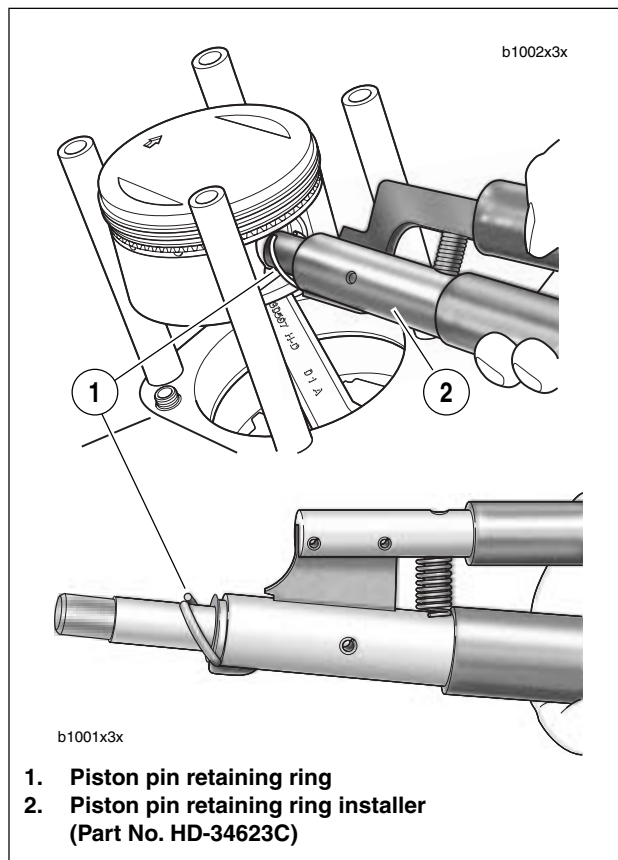

Figure 3-108. Installing Piston Pin Circlip
4. See Figure 3-108. Install **new** piston pin retaining rings (1) using PISTON PIN RETAINING RING INSTALLER (2) (Part No. HD-34623C). Place **new** retaining ring on tool with gap pointing up.